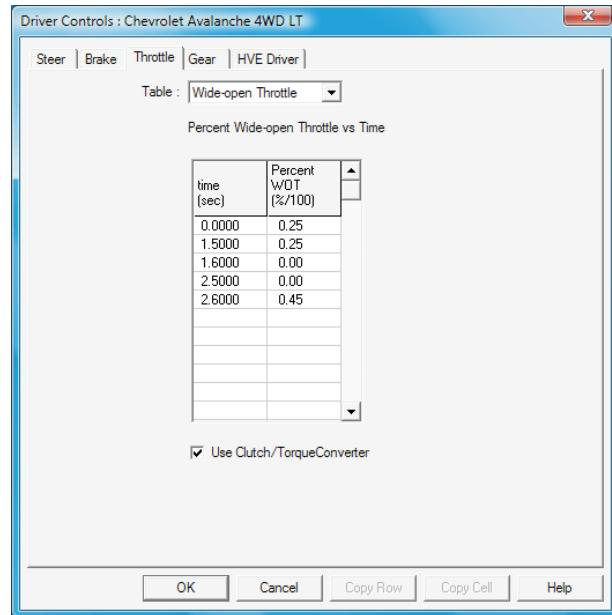

Figure 3 - Throttle table
closed throttle (CT). 1.0 represents full throttle (WOT). A typical throttle table is shown in Figure 3.
**Clutch/Torque Converter** – This is a checkbox that tells the Drivetrain Model to simulate a clutch (manual transmission) or torque converter (automatic transmission) when starting from a low speed in first or reverse gear, also shown in Figure 3.